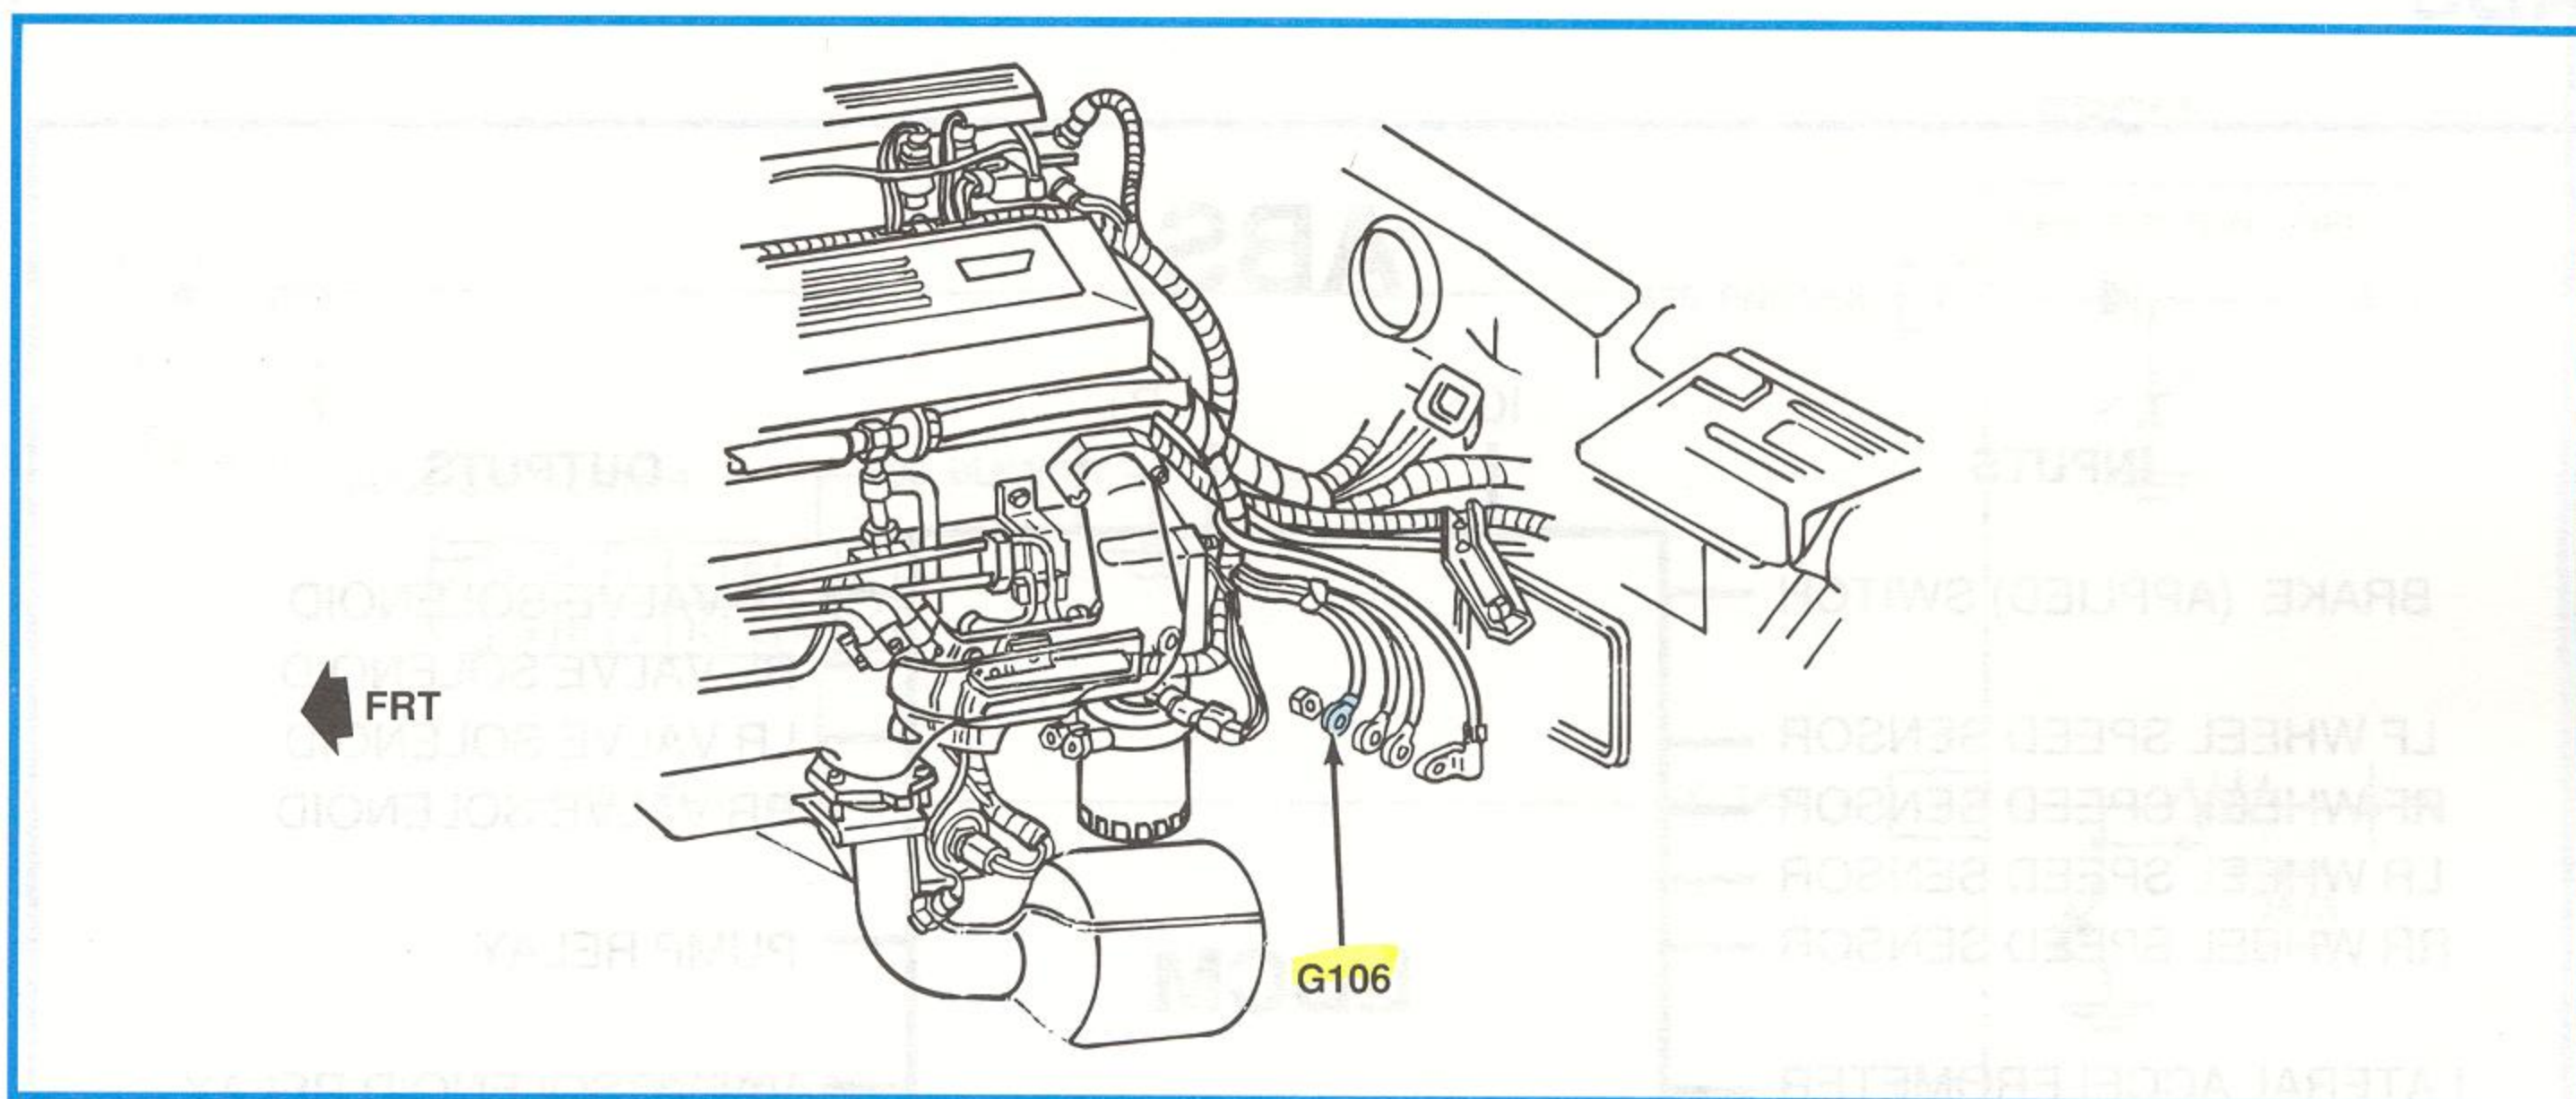
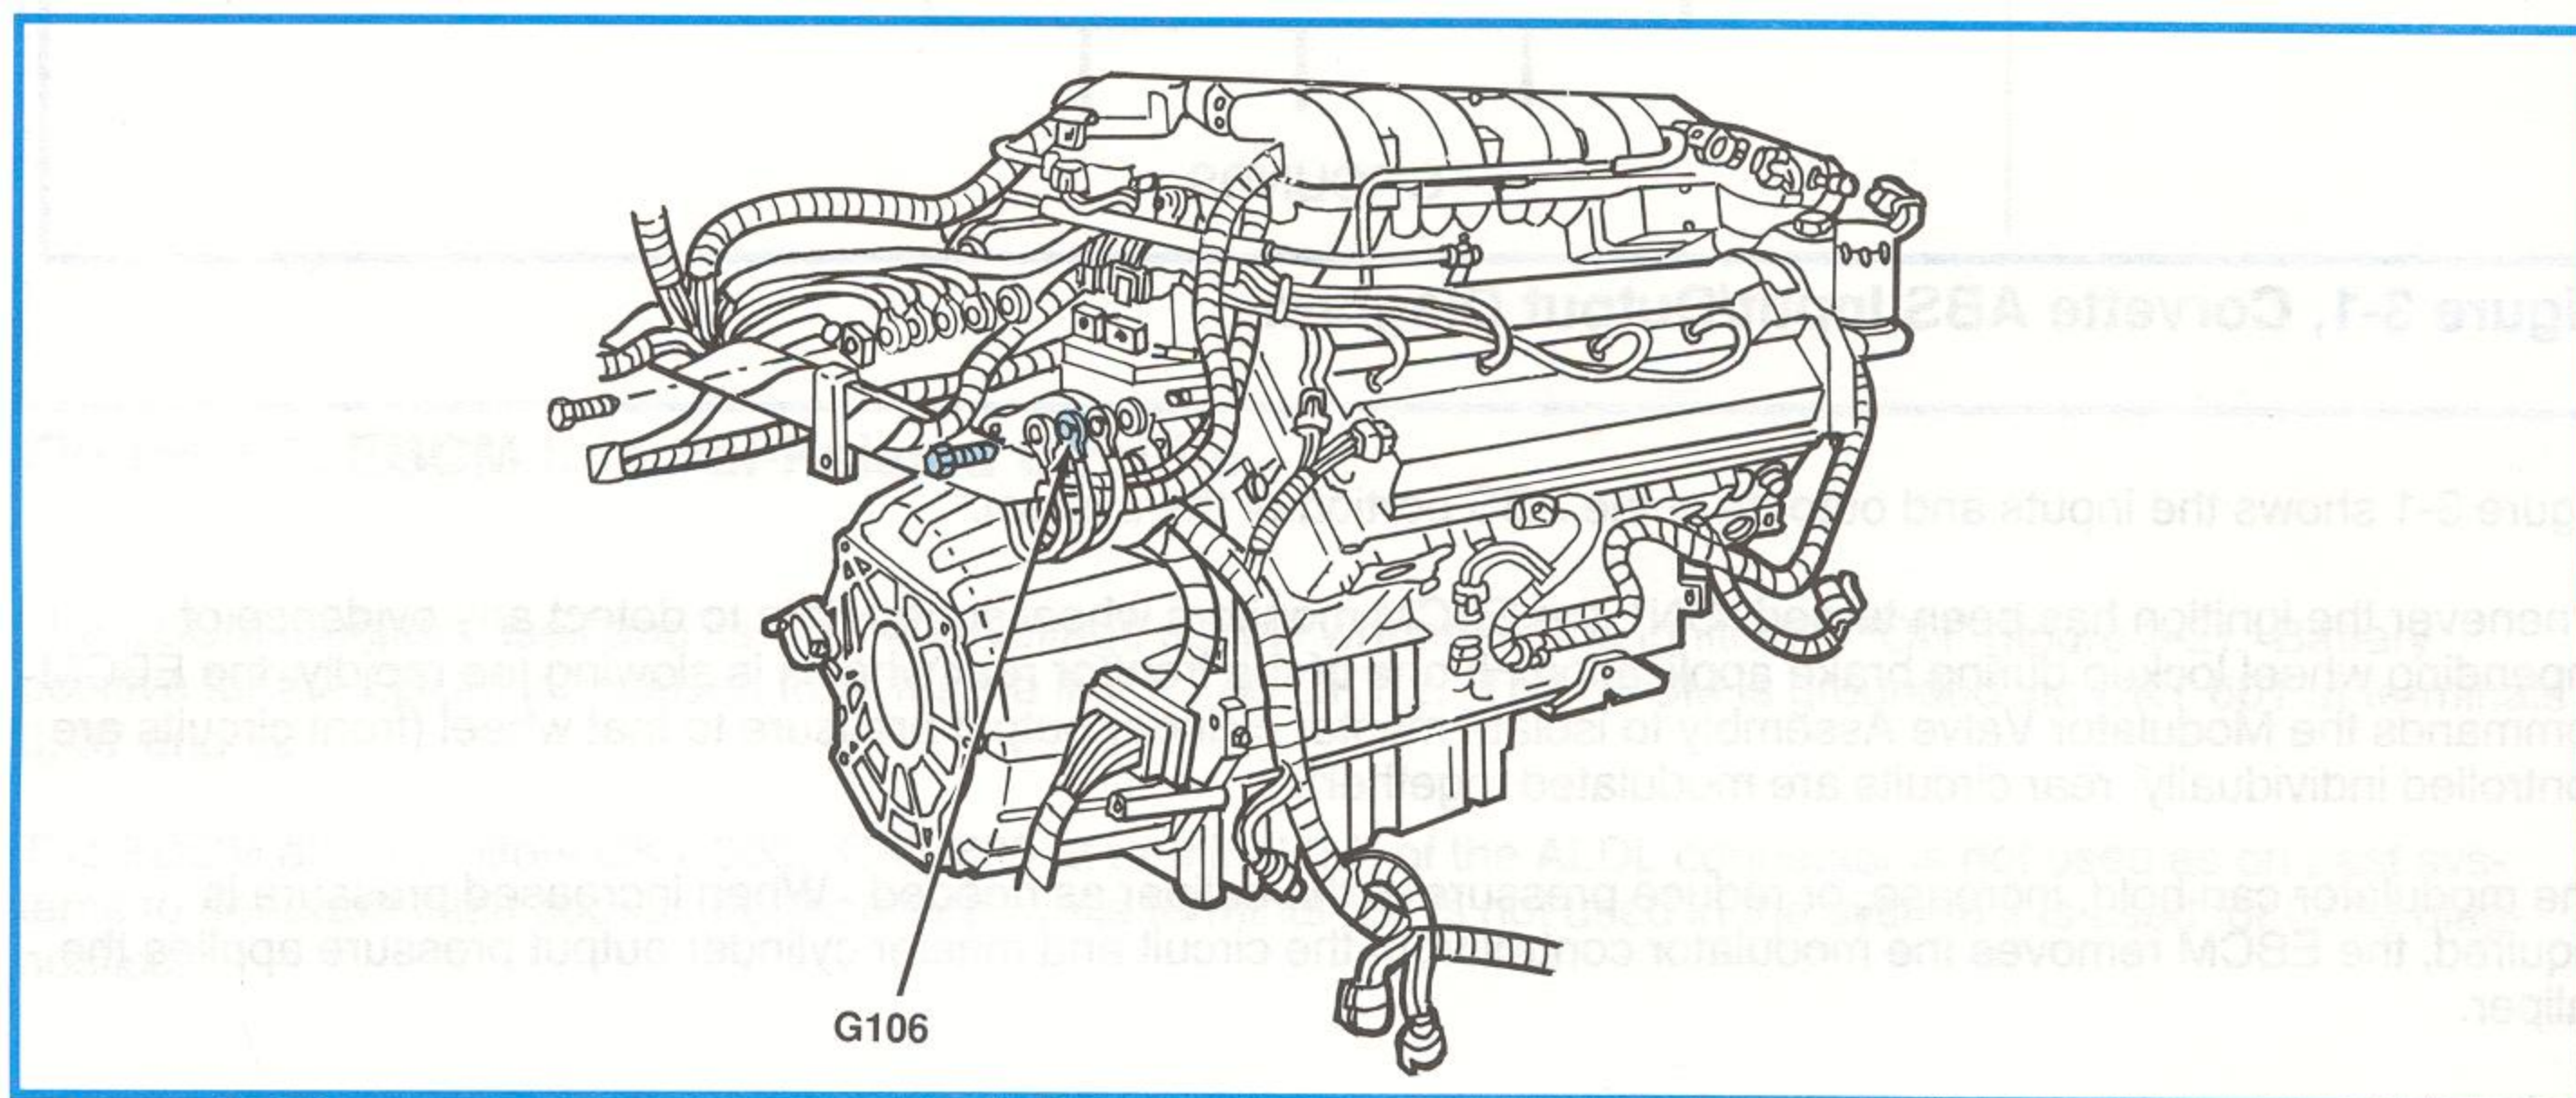

Figure 2-23, Ground G106 (LT1)
Figure 2-24, Ground G106 (LT5)
- Ground G106 (CKT 801) handles both the TPS module and EBCM valve solenoid control. On LT1- equipped vehicles, G106 is next to the oil filter (figure 2-23). With the LT5, G106 is at the right bell housing bolt (figure 2-24). Ground G106 (CKT 803) is for the brake fluid level switch and is an engine ground.